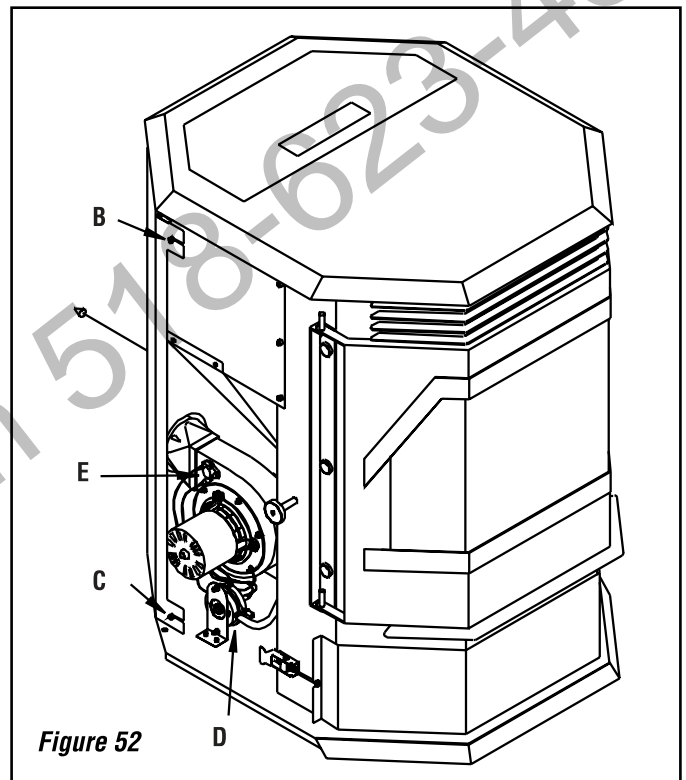

Figure 52
2. Locate the switch on the combustion blower (see **Figure 52**).
3. Loosen the two screws B and C shown in **Figure 52** and the corresponding two screws on the other side of the stove. The back can now be pulled to the rear and off of the stove.
The Winslow PS40 stove has a vacuum switch located behind the left door, fastened to the pedestal base (see D in **Figure 52**). If a low pressure is created in the firebox by a leak, opening the front door, a blocked flue, or unsealed ash drawer, the vacuum switch will sense it and cause the stove to go into a shutdown mode.
(Closes at 140°F) This switch is installed on the combustion blower (see E in **Figure 52**) and shuts the stove down if it senses no fire in the Burn-Pot.